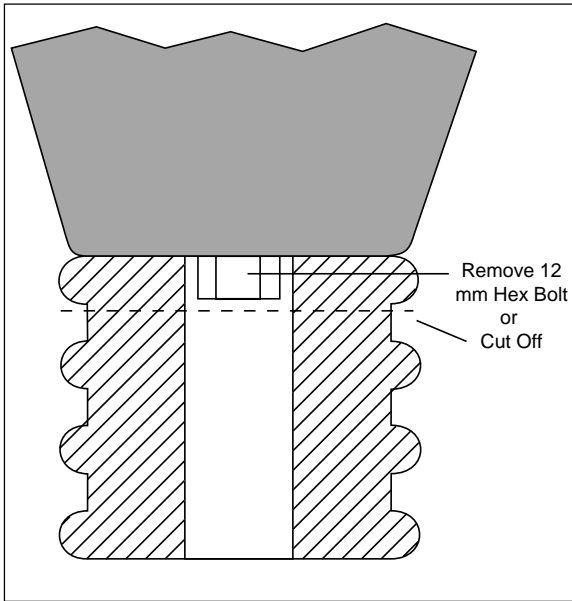

Figure 1
3. Cut off the exposed portion of the rubber jounce bumper (Figure 1).
If the vehicle's headlights are shining into the trees or the vehicle is leaning to one side, then it is not level (fig. 1). Raise the air pressure to correct either of these problems and level the vehicle.